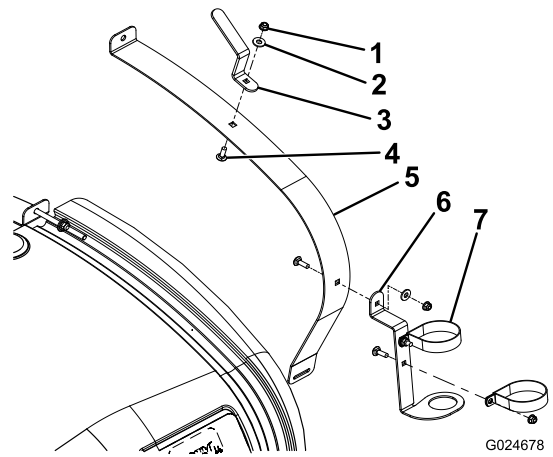
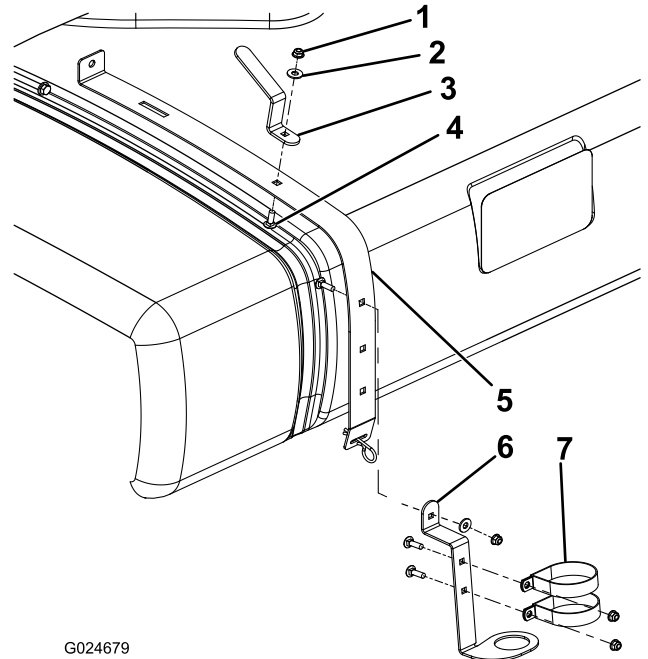

Figure 1
Figure 2
- For the Multi Pro 1750, loosen the front, right-hand tank strap (Figure 1).
- For the Multi Pro WM, loosen the rear, right-hand strap (Figure 2).
3. Install the spray gun bracket as shown in Figure 1 or Figure 2 using a carriage bolt, flat washer, and flange-head nut.
- Install the hose hook as shown in Figure 1 or Figure 2 using a carriage bolt, flat washer, and flange-head nut.